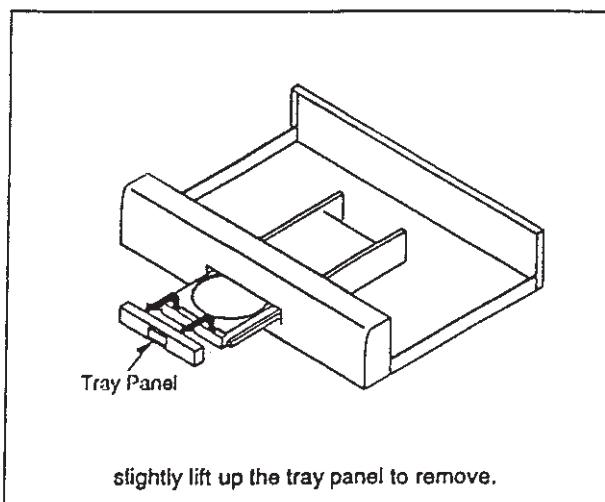
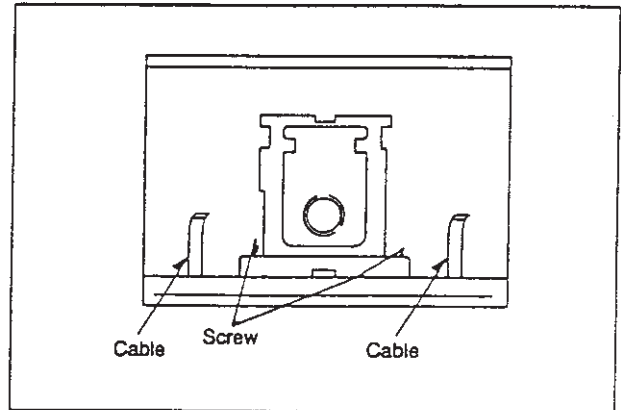
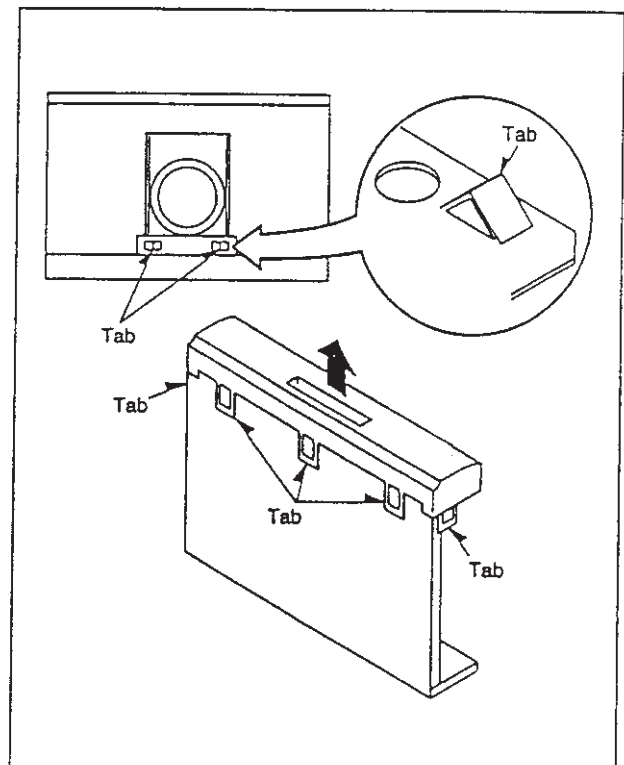

Fig. 1-2-1 Removal of the Tray Panel
Fig. 1-2-2 Removal of the Front Panel
Fig. 1-2-3 Location of Tabs on the Front Panel
6. Remove the tray panel attached to the front edge of the tray as shown in Fig. 1-2-1. Then, load the tray manually and remove the front panel as shown in Fig. 1-2-2 and Fig. 1-2-3.